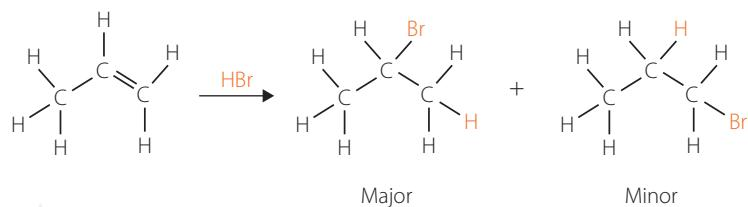

FIGURE 10.11 Markovnikov's rule – the hydrogen adds to the end carbon since it has the greater number of hydrogens attached.
- When an asymmetrical reagent (for example H_2O or HBr) is added to an unsymmetrical alkene, there are two possible products. In reality, one product predominates, as explained by **Markovnikov's rule**, which states that the hydrogen atom will predominantly add across the double bond to the carbon that already has the greater number of hydrogen atoms, creating a major and a minor product. This can be seen in Figure 10.11 (page 298).